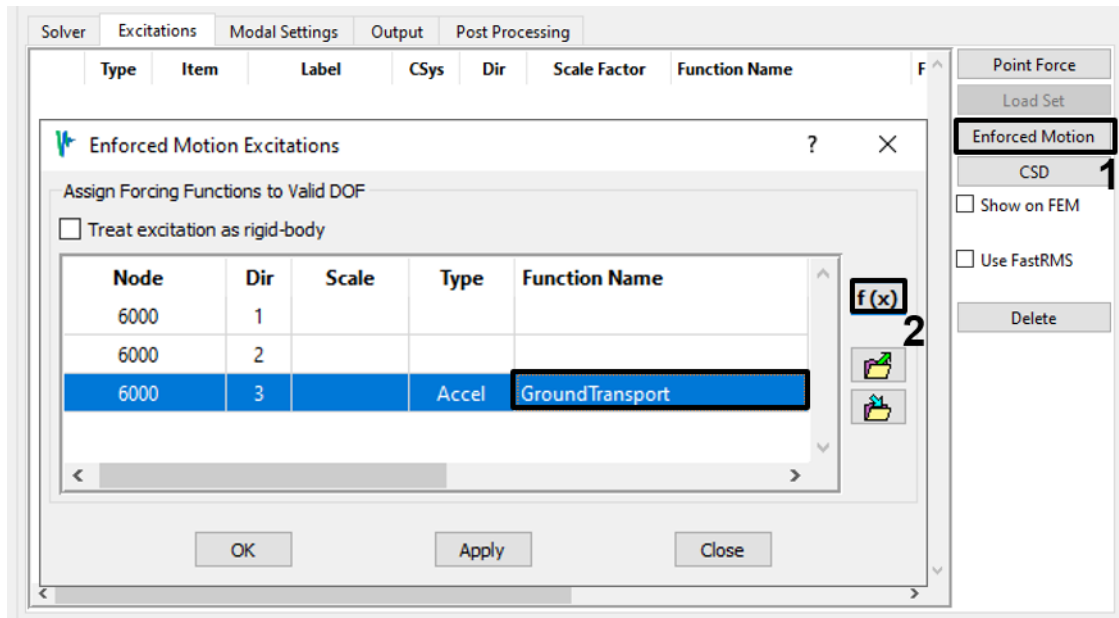

Figure 4-42. Select enforced motion, select Z-translation, and then bring up the Function Manager.
- a. From the *Excitations* tab, bring up the *Enforced Motion* dialog (Figure 4-42). The only DOF available are those requested on the USET U2 card in the Nastran input file, which in this case are the translations of node 6000, the independent node of the base rigid element. Select Z-translation for excitation and then click the **f(x)** button to bring up the Function Manager.